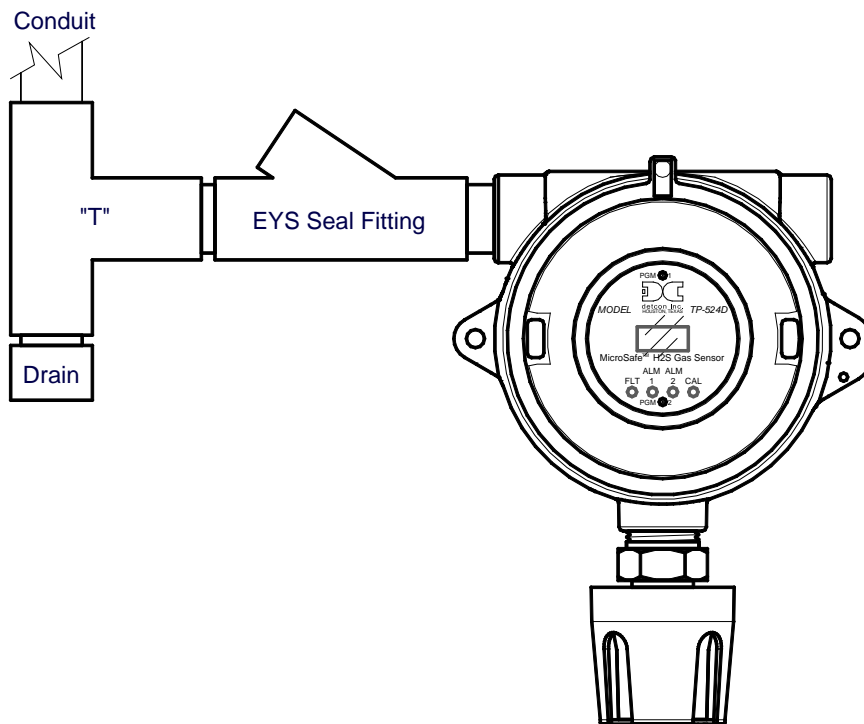
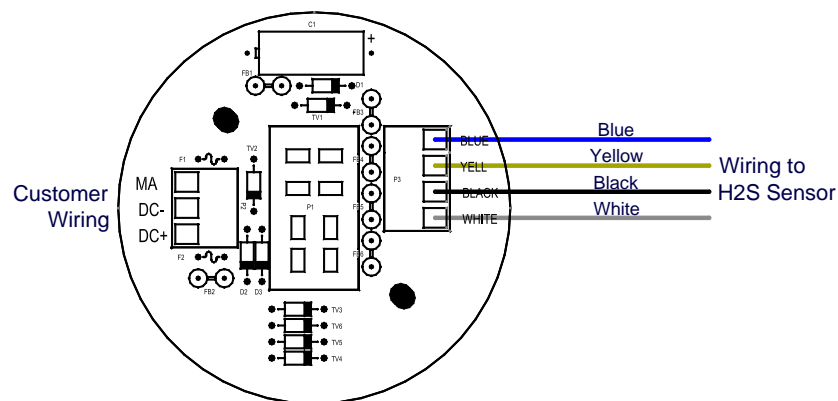

Figure 7 Typical Installation
Figure 8 Sensor Connector PCB
NOTE: In all installations the gas sensor should point straight down (refer to Figure 7). Improper sensor orientation may result in false readings and permanent sensor damage.
Proper electrical installation of the gas sensor is critical for conformance to Electrical Codes and to avoid damage due to water leakage. Refer to Figure 7 and Figure 8 for proper electrical installation.
NOTE: If a conduit run exits the secondary port, repeat the installation technique shown in Figure 7.
In Figure 7, the drain allows H₂O condensation inside the conduit run to safely drain away from the sensor assembly. The electrical seal fitting is required to meet the National Electrical Code per NEC Article 500-3d (or Canadian Electrical Code Handbook Part 1 Section 18-154). Requirements for locations of electrical seals are covered under NEC Article 501-5. Electrical seals also act as a secondary seal to prevent water from entering the wiring terminal enclosure. However, they are not designed to provide an absolute watertight seal, especially when used in the vertical orientation.
NOTE: For products utilizing the aluminum junction box option, the conduit seal shall be placed at the entry to the junction box (see Figure 7 as an example). For products utilizing the stainless steel junction box option, the conduit seal shall be placed within 18" of the enclosure. Crouse Hinds type EYS2, EYD2 or equivalent are suitable for this purpose.
- Observing correct polarity, terminate the 3-conductor 4-20mA field wiring (DC+, DC-, and MA) to the sensor assembly wiring in accordance with the detail shown in Figure 8.